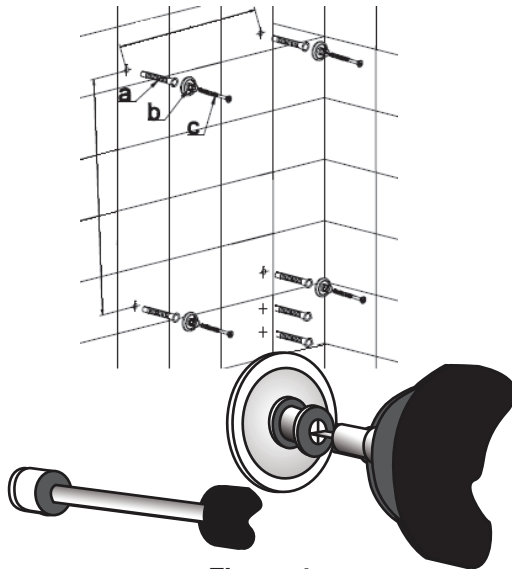

Figure 4
Step 4: Installing wall posts (Figure 4)